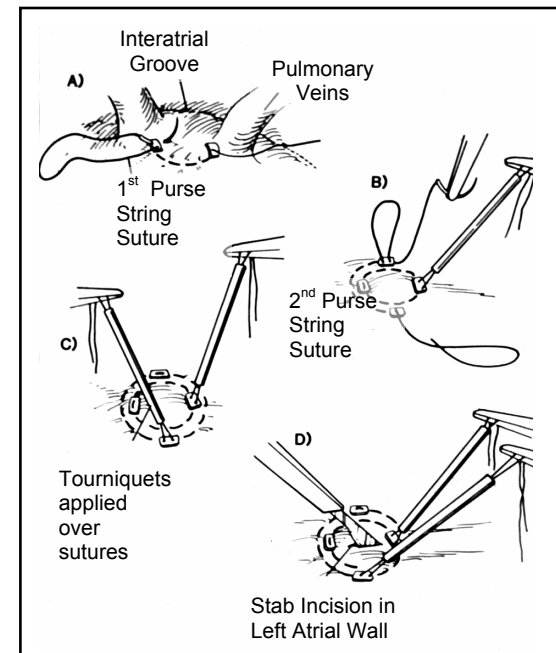

Figure 4
1. Place pledgeted double purse string sutures around the desired cannulation site. **(Fig.4)**